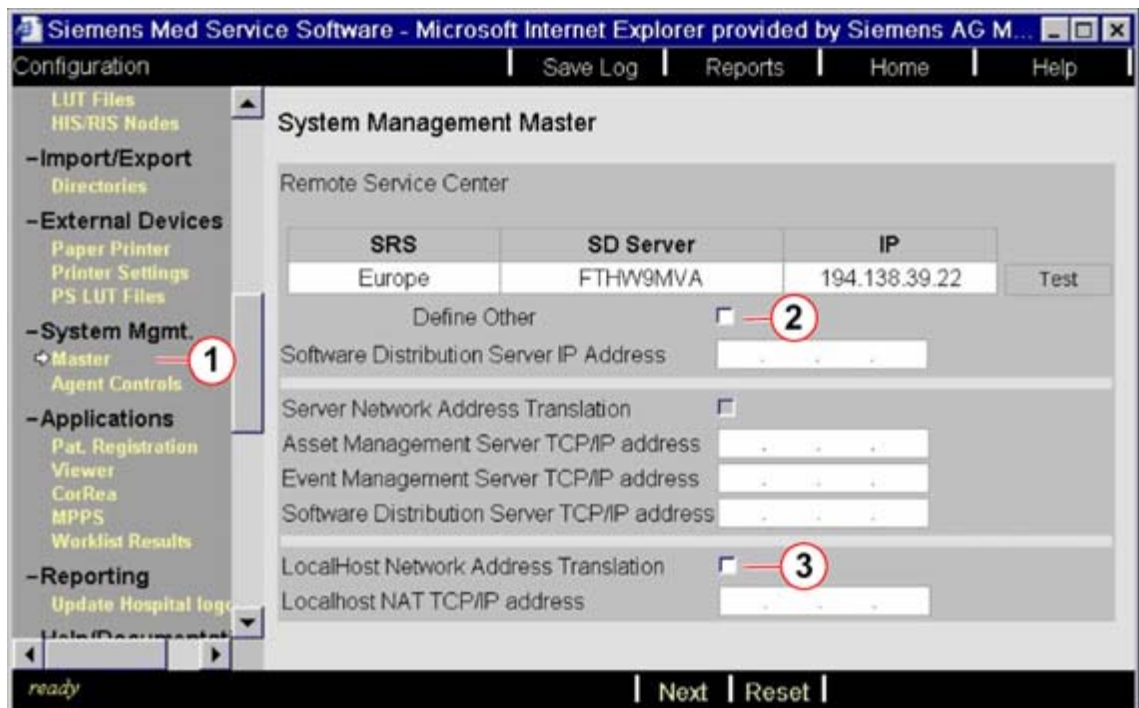

Fig. 27: SRS master page with default option (no NAT is used)
6. The checkbox (2/Fig. 27 / p. 49) must be **deselected**, and the checkbox (3/Fig. 27 / p. 49) must be **deselected**.